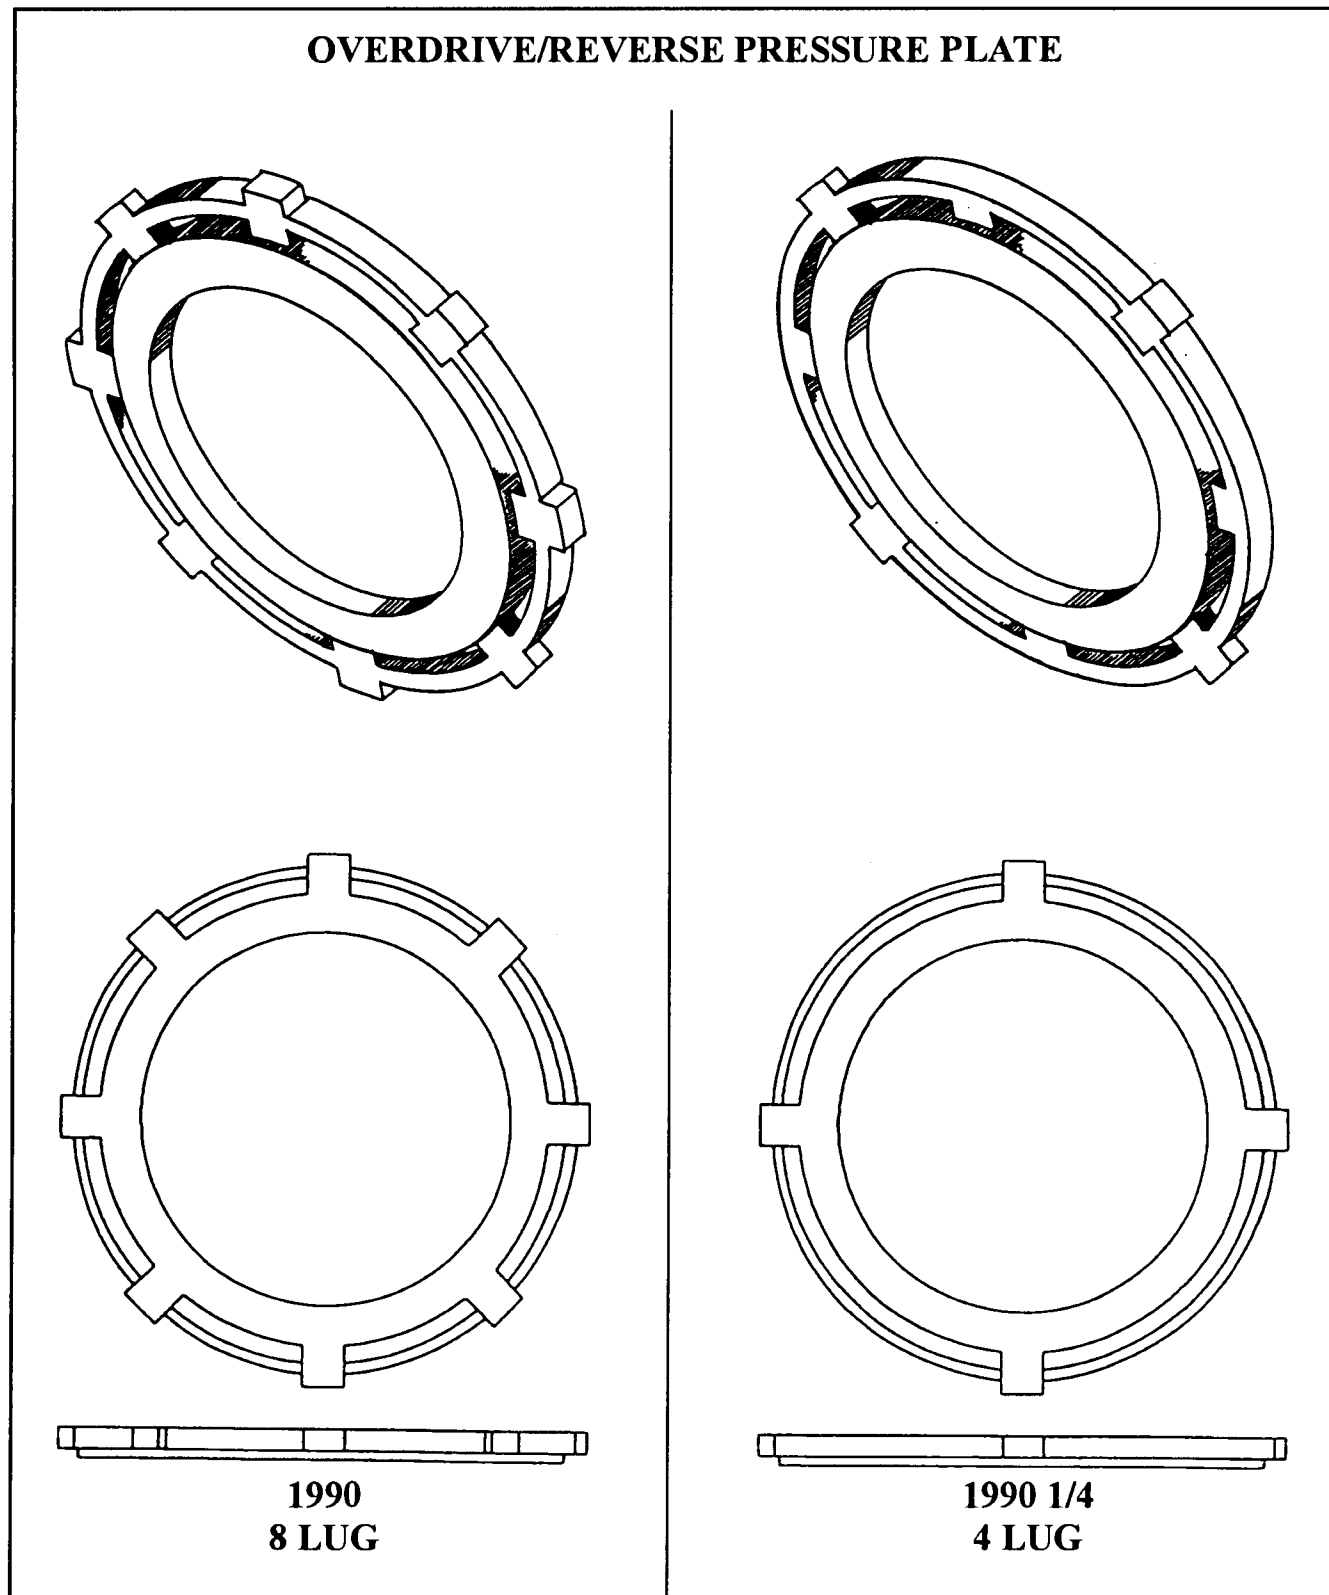

Figure 36
- (2) **OVERDRIVE/REVERSE PRESSURE PLATE** - The new Overdrive/Reverse Pressure Plate has only four lugs on the outside diameter, instead of the previous eight, and can be identified visually (See Figure 36).